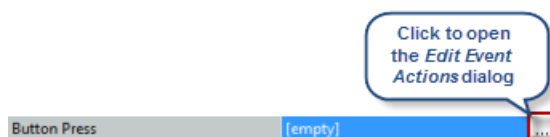

FIG. 336 Button Press (Event) Property
2. In the *Events* tab, click on the Event that you want to use to trigger this Launch Action. For example, select the *Button Press* event (FIG. 336):